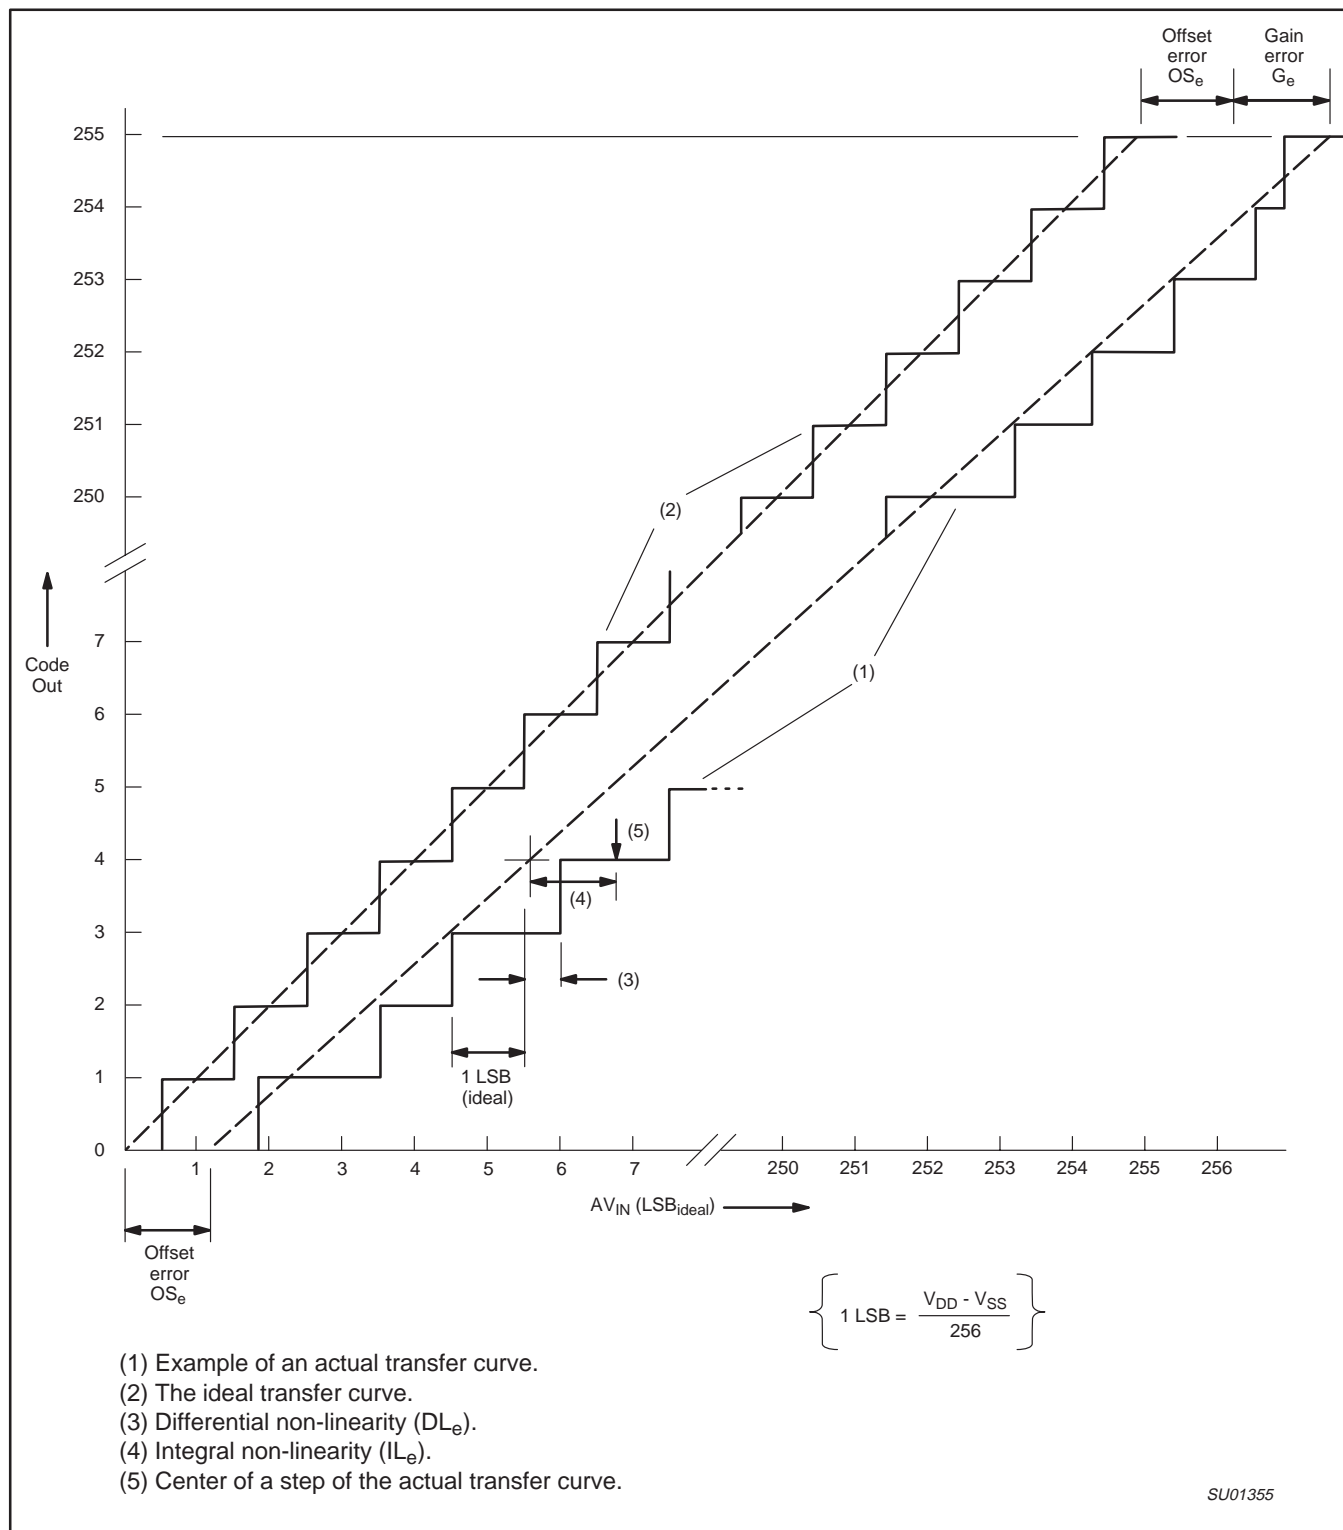

Figure 41. A/D Conversion Characteristics
- The differential non-linearity ( $DL_e$ ) is the difference between the actual step width and the ideal step width. See Figure 41.
- The integral non-linearity ( $IL_e$ ) is the peak difference between the center of the steps of the actual and the ideal transfer curve after appropriate adjustment of gain and offset errors. See Figure 41.
- The offset error ( $OS_e$ ) is the absolute difference between the straight line which fits the actual transfer curve (after removing gain error), and the straight line which fits the ideal transfer curve. See Figure 41.
- The gain error ( $G_e$ ) is the relative difference in percent between the straight line fitting the actual transfer curve (after removing offset error), and the straight line which fits the ideal transfer curve. Gain error is constant at every point on the transfer curve. See Figure 41.